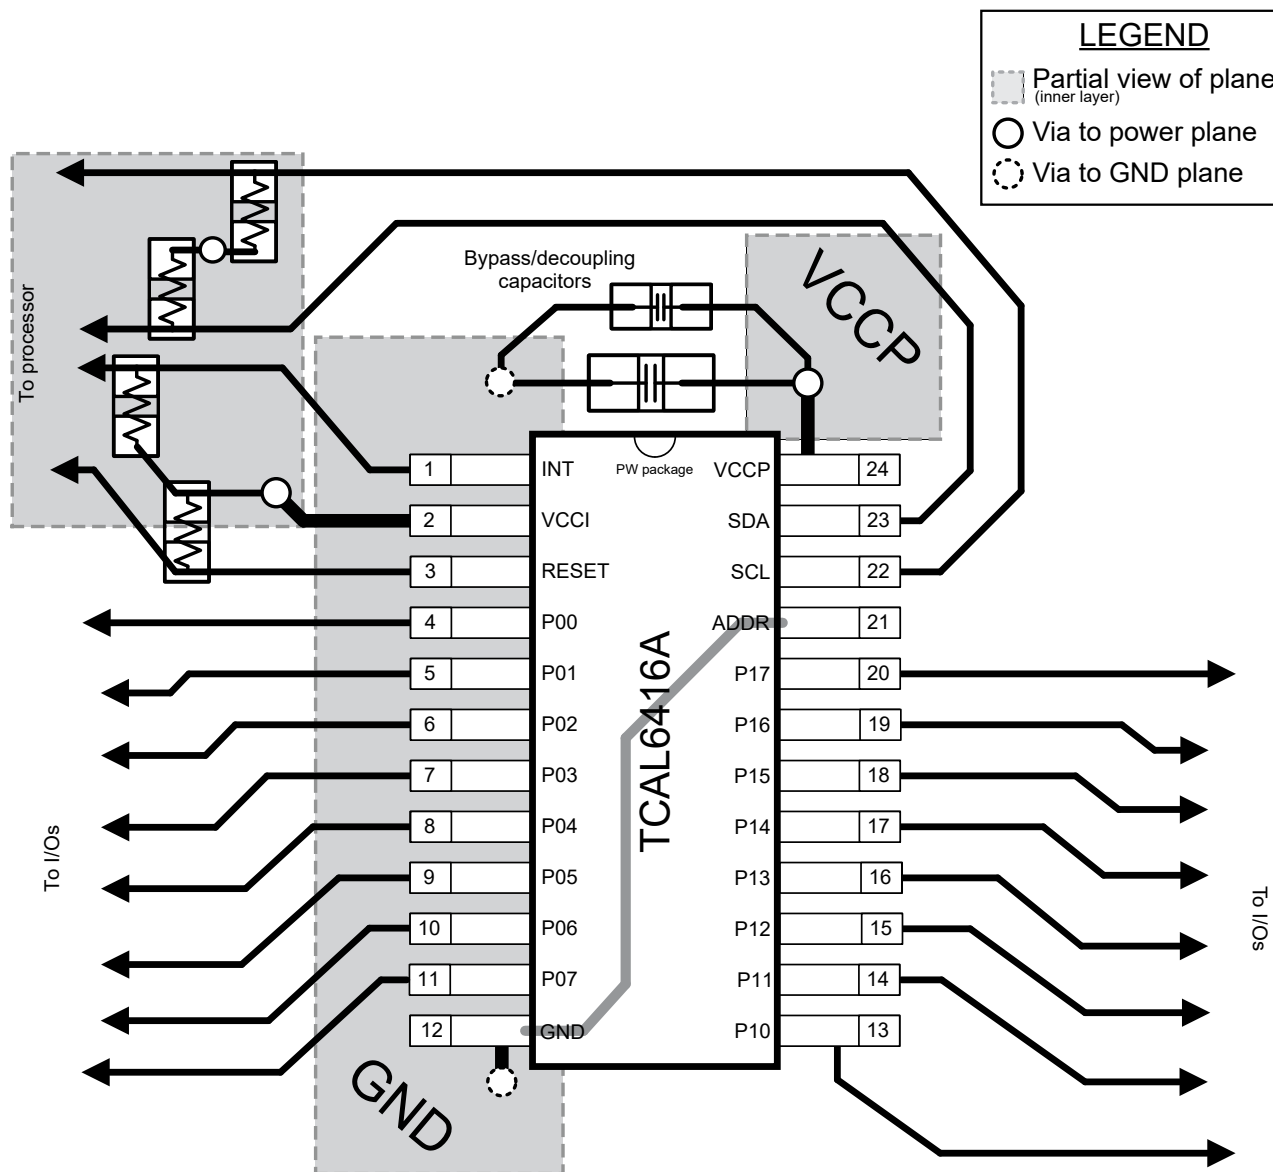

Figure 9-10. TCAL6416 Layout
In all PCB layouts, it is a best practice to avoid right angles in signal traces, to fan out signal traces away from each other upon leaving the vicinity of an integrated circuit (IC), and to use thicker trace widths to carry higher amounts of current that commonly pass through power and ground traces. By-pass and decoupling capacitors are commonly used to control the voltage on the supply pins, using a larger capacitor to provide additional power in the event of a short power supply glitch and a smaller capacitor to filter out high-frequency ripple. These capacitors should be placed as close to the TCAL6416 as possible. These best practices are shown in Figure 9-10.
For the layout example provided in Figure 9-10, it is possible to fabricate a PCB with only 2 layers by using the top layer for signal routing and the bottom layer as a split plane for power and ground (GND). However, a 4 layer board is preferable for boards with higher density signal routing. On a 4 layer PCB, it is common to route signals
on the top and bottom layer, dedicate one internal layer to a ground plane, and dedicate the other internal layer to a power plane. In a board layout using planes or split planes for power and ground, vias are placed directly next to the surface mount component pad which needs to attach to power or GND and the via is connected electrically to the internal layer or the other side of the board. Vias are also used when a signal trace needs to be routed to the opposite side of the board, but this technique is not demonstrated in Figure 9-10.